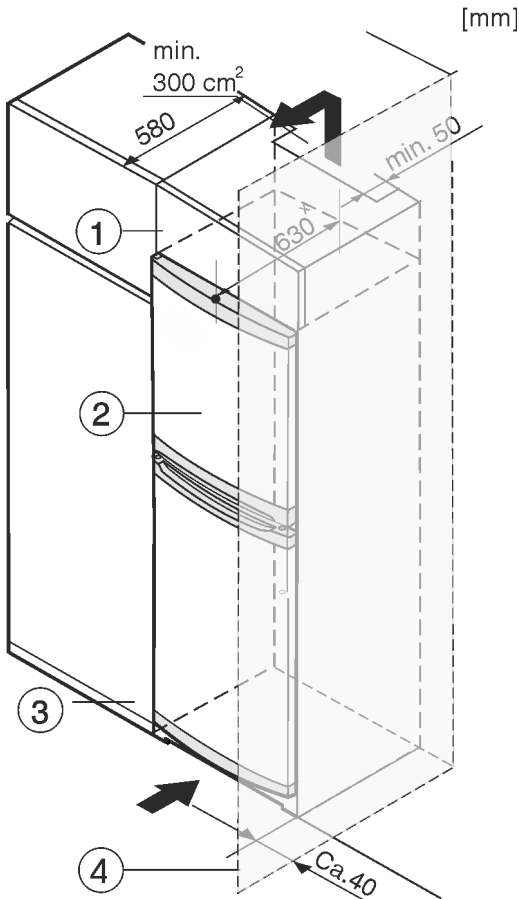

Fig. 8
- (1) Top cupboard (3) Kitchen cabinet
(2) Appliance (4) Wall
The appliance can be built into kitchen units. A top cupboard Fig. 8 (2) can be added above the appliance Fig. 8 (1) up to the height of the fitted kitchen units.
When fitting kitchen cupboards around the appliance (max. depth 580 mm), you can install the appliance directly next to the kitchen cupboard Fig. 8 (3). The appliance protrudes 34 mm * to the side and 50 mm * in the centre of the appliance in relation to the kitchen cupboard front.
If the appliance is set up with the hinges next to a wall Fig. 8 (4), the distance between the appliance and the wall must be at least 40 mm. This is how far the handle protrudes when the door is open.